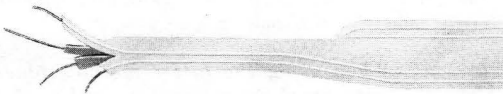

Fig. 2—B Station Wire, Folded
- (1) The B station wire may be connected directly to subsets, wall sets, or external ringers. It may also be connected directly to standard screw type terminals, jacks, and connecting blocks.
- (2) Strip insulation carefully, the 26 AWG conductors may be easily notched and broken.
- (3) To prevent wire from sticking to apparatus or existing wires in apparatus, fold wire as shown in Fig. 2 after it enters apparatus box.